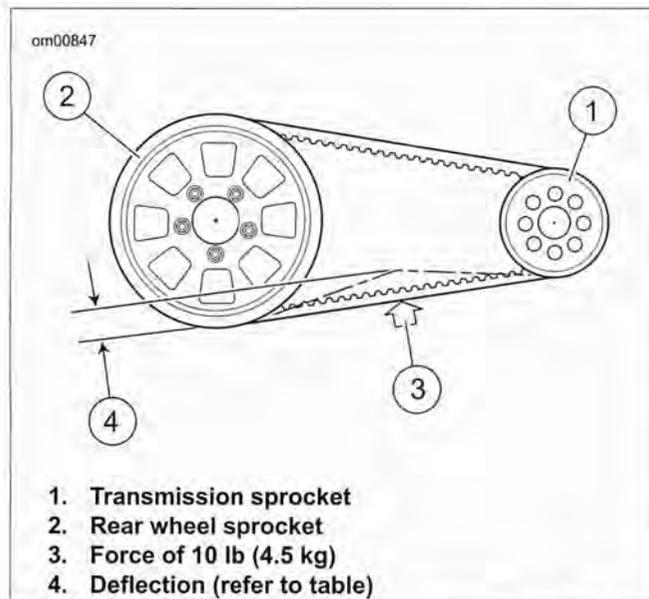

Figure 1-48. Gauging Belt Deflection: XL Models
- a. **XL Models:** See Figure 1-48. Position the gauge half-way between the transmission and rear wheel sprockets.